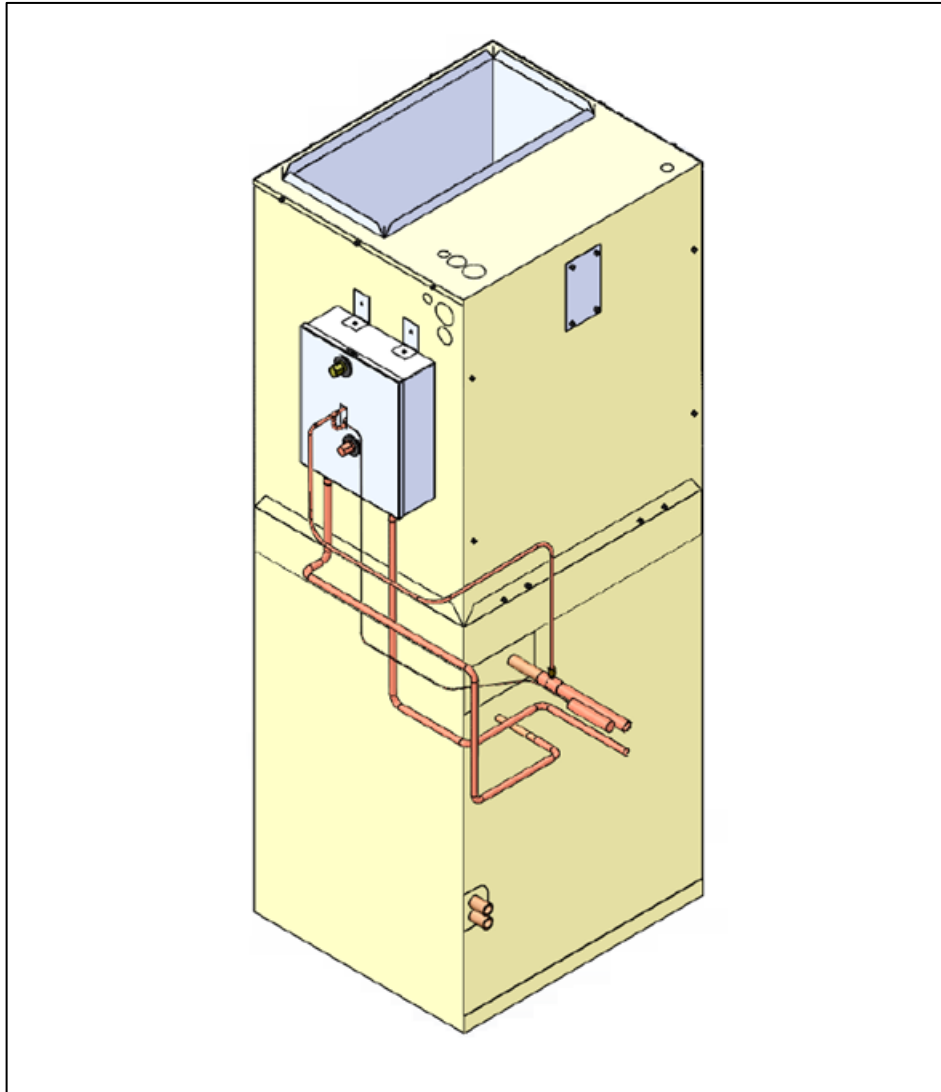

Figure 8. TXV Control Installed on Air Handler
The TXV control box in Figure 8 is positioned external to the air handler, located on (1) the air handler or (2) a vertical mounting surface immediately adjacent to the air handler. The TXV control box is to be mounted in the **vertical position** and **above the air handler tubing stub outs** as shown in Figure 8, whether the air handler is installed in the vertical or horizontal position.